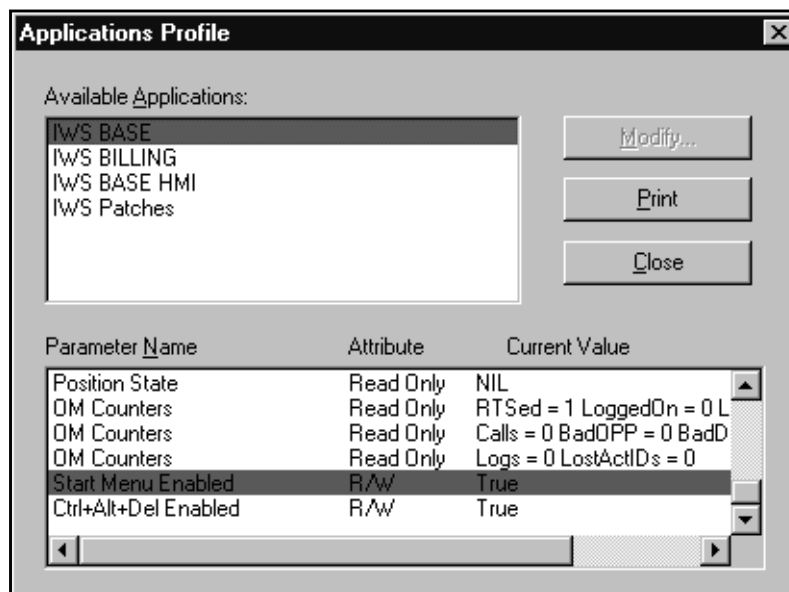

FIGURE 23. Start Menu Enabled Set to True
- b. Press Alt+S to change the setting of the Start Menu Enabled variable to true as shown in Figure 23.